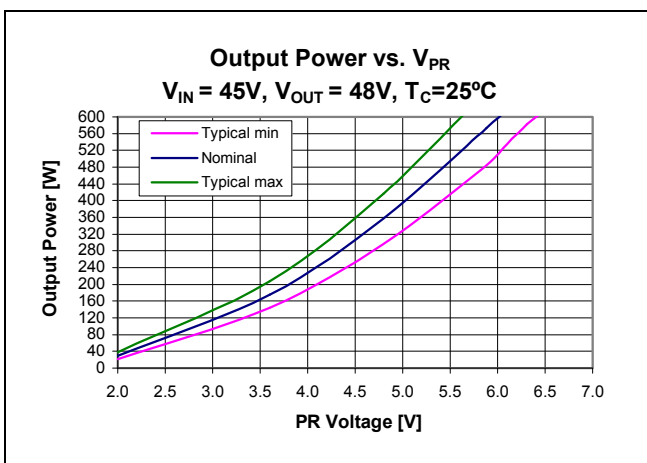

Figure 21 – Output Power vs.  $V_{PR}$ ;  $V_{IN}=45V$ ,  $V_{OUT}=48V$ ,  $T_{CASE}=25^{\circ}C$
**Control node (PR)** is the input to the control node which determines the powertrain timing and ultimately the module output power (Figure 21). An internal 0.5mA current sink is always active. The bi-directional buffer between PR and the control node has two states. In normal operation, PR will be above the 0.79V switching threshold, and will drive the control node through the buffer. An internal 7.4V clamp determines the maximum output power that can be requested of the modulator.